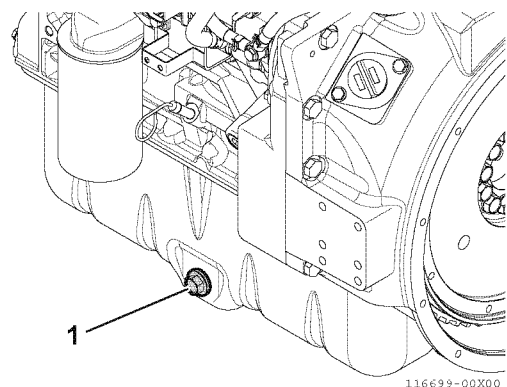

Fig.30-19
7. Remove the drain plug (1, Fig.30-19) from the oil pan. Allow lubricating oil to drain.